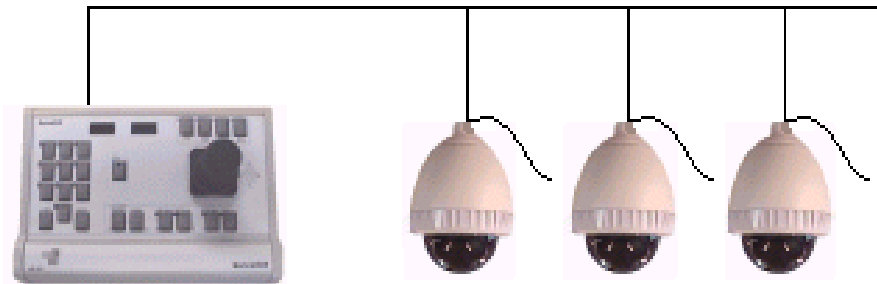

Figure 3
2. Wire the transmission wires into pins 3(TX-) and 6(TX+). See fig.3.